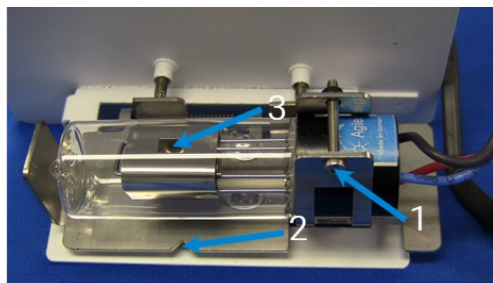

Figure 87. D2 lamp alignment (top view)
- 7 Loosen the Philips head screw in the lamp holder assembly (1 in Figure 87) and slide out the lamp.
- 8 Slide a new D₂ lamp through the clamp until the notch in the backing plate (2) is aligned with the lamp aperture (3) shown in Figure 87.